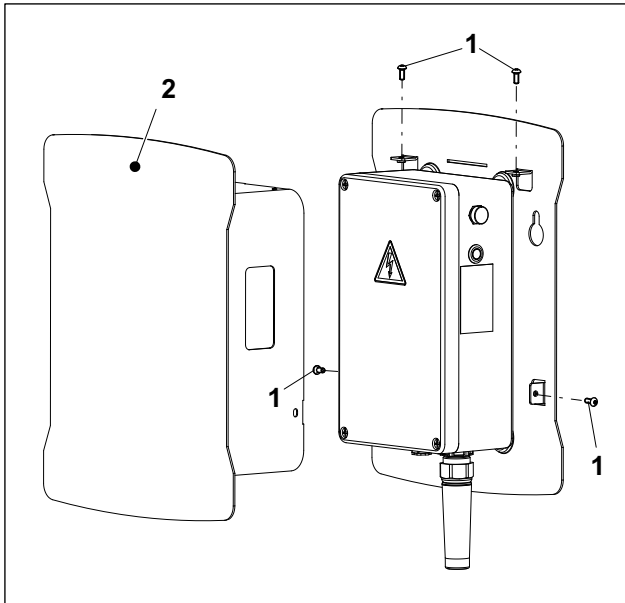

Fig. 7 Wallbox basicEVO with cover
10. Replace the cover (Fig. 7/2) and tighten the four screws M4x10 (Fig. 7/1) (1.8 Nm). The four screws are included in the enclosed accessories.